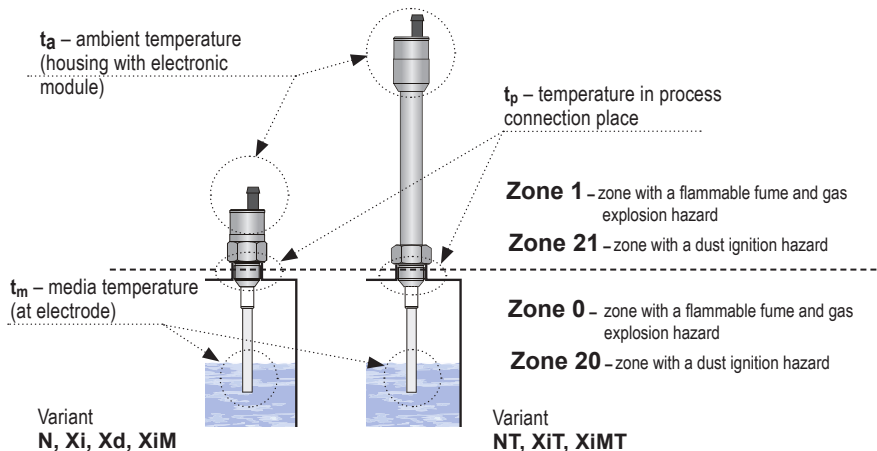

Fig. 20: Illustration of areas for temperature measurement and explosive zones
DLS-27Xd (10, 20, 30, 40)	Performance is protected by "Ex t" lock with intrinsically safe electrical circuit „ia" for hazardous areas (flammable dust areas) Ⓜ II 1/2D Ex ia/tb [ia] IIIC T78°C Da/Db, electrode part zone 20, housing with electronics zone 21 see Fig. 20. The type 20 has electrode coating from electrostatically conductive PTFE Ex.
1) The here-mentioned temperatures are visually explain in Fig. 20.